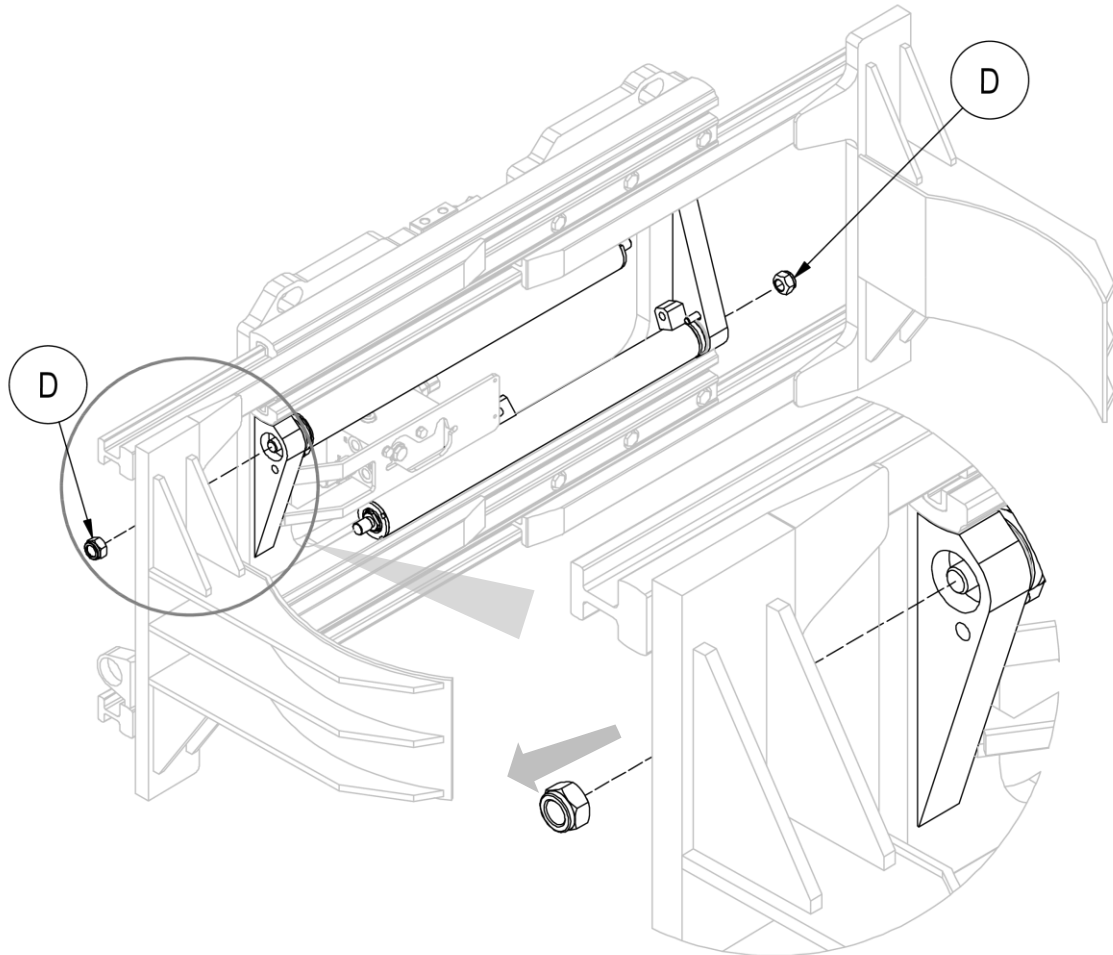

Figure 48
7. Remove the nuts **D** that secure the cylinders to the equipment assembly and remove the cylinders, taking care not to damage them (see *Figure 48*).